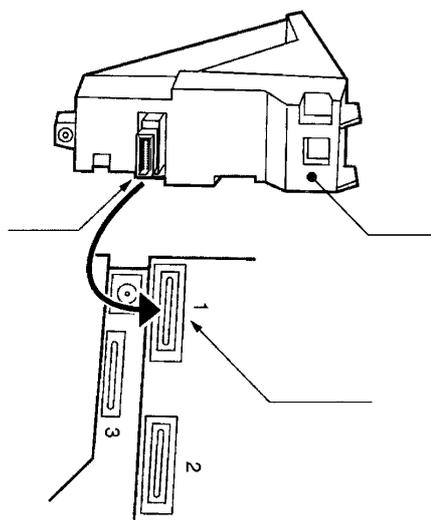
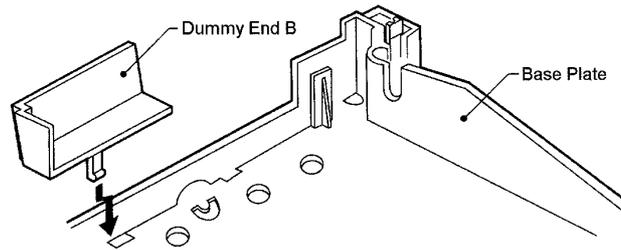

Figure 7-7 Installing Adapter in Connector 1
Figure 7-8 Installing Dummy End B
8. If Adapter is installed in Connector 1 as show in *Figure 7-7 Installing Adapter in Connector 1*, Install Dummy end B as shown in *Figure 7-8 Installing Dummy End B*.